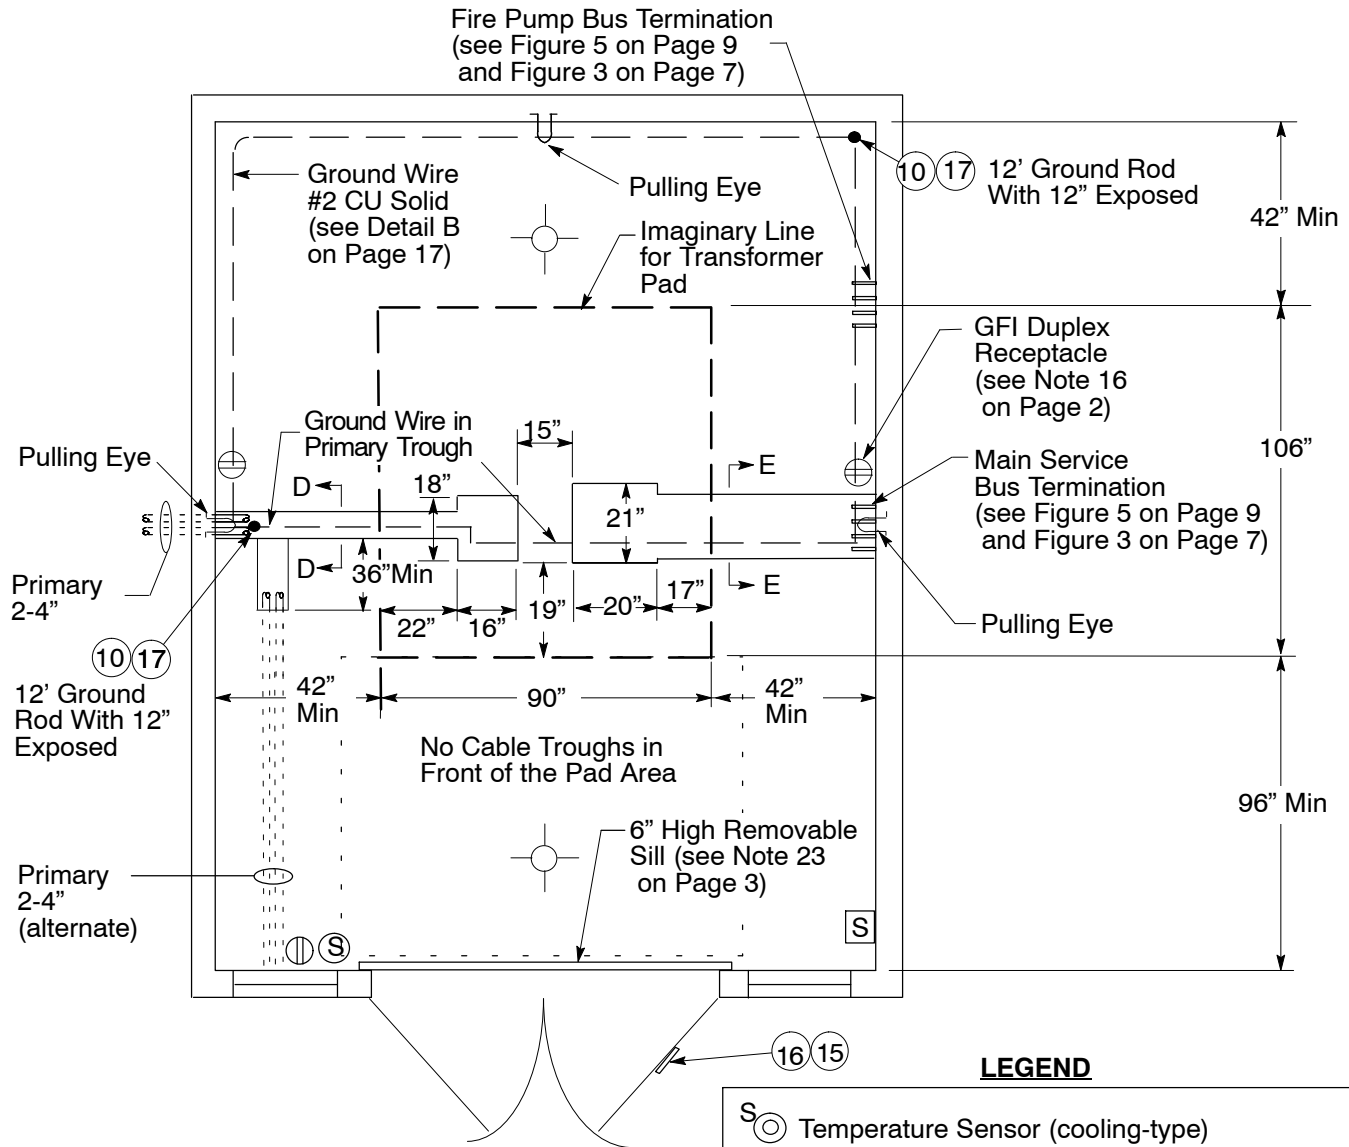

Figure 4
- B. For main service of up to 7 sets of cables per Greenbook Document 063928 with a separate fire pump service, the secondary is made of cables in an open trench to wall-mounted bus stubs that feed adjacent stubs to the fire pump (see Figure 4 on Page 8).